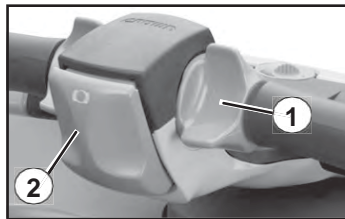

Fig. 19 Braking
Press the brake switch (Fig 19, ②).